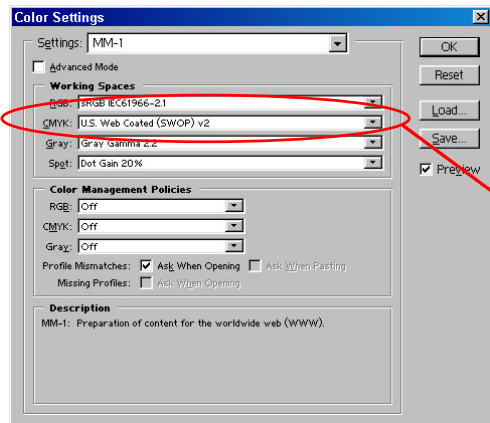

Figure 32 - Set Colour Profile inside image
- Colour balancing between equipment is a potential problem similar to graphic design production; currently, there does not seem to be a method to create a colour profile that travels with the image; in Adobe Photoshop (Figure 32 and 33), there are standard colour profiles pre-configured for use that provide repeatability across platforms and devices; this may be more important as digital imaging pathology becomes more prevalent.